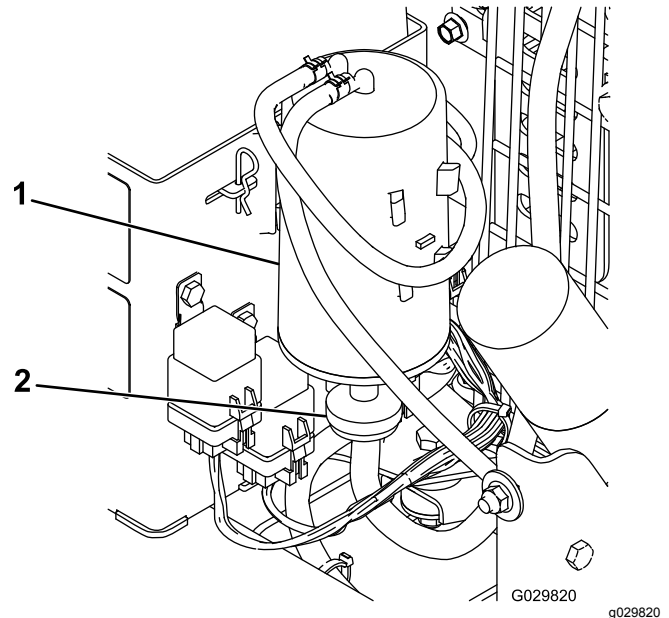

Figure 13
2. Remove and discard the carbon canister air filter (Figure 13).